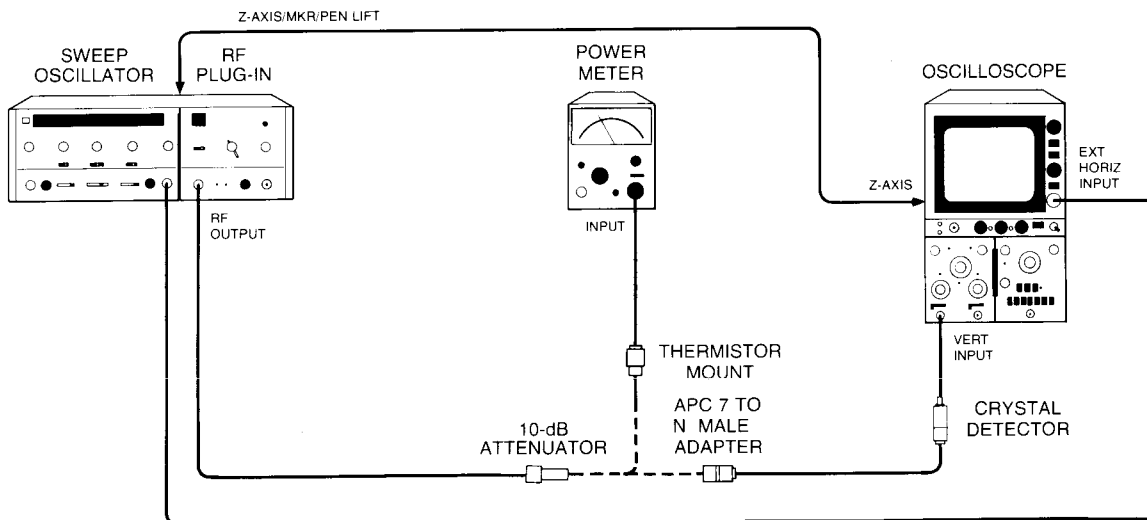

Figure 4-7. Internal Leveling Test Setup
Equipment listed is for three test setups (Figures 4-7, 4-8 and 4-9)
- a. Connect equipment as shown in Figure 4-7 with RF OUTPUT connected to crystal detector and oscilloscope. Allow 30 minutes warm-up time. Set controls as follows:
- c. Connect equipment as shown in Figure 4-7 with RF OUTPUT connected to thermistor mount and power meter.
- f. Connect equipment as shown in Figure 4-7 with RF OUTPUT connected to crystal detector and oscilloscope. Adjust oscilloscope to establish +5 dBm reference on top horizontal graticule.
- g. Connect equipment as shown in Figure 4-7 with RF OUTPUT connected to thermistor mount and power meter. Adjust 86290A power to +6.4 dBm \pm 0.1 dB. (It may be necessary to change frequency.)
- h. Connect equipment as shown in Figure 4-7 with RF OUTPUT connected to crystal detector and oscilloscope. Note +6.4 dBm reference point on oscilloscope; area between this trace position and top graticule line represents leveling tolerance of \pm 0.7 dB.